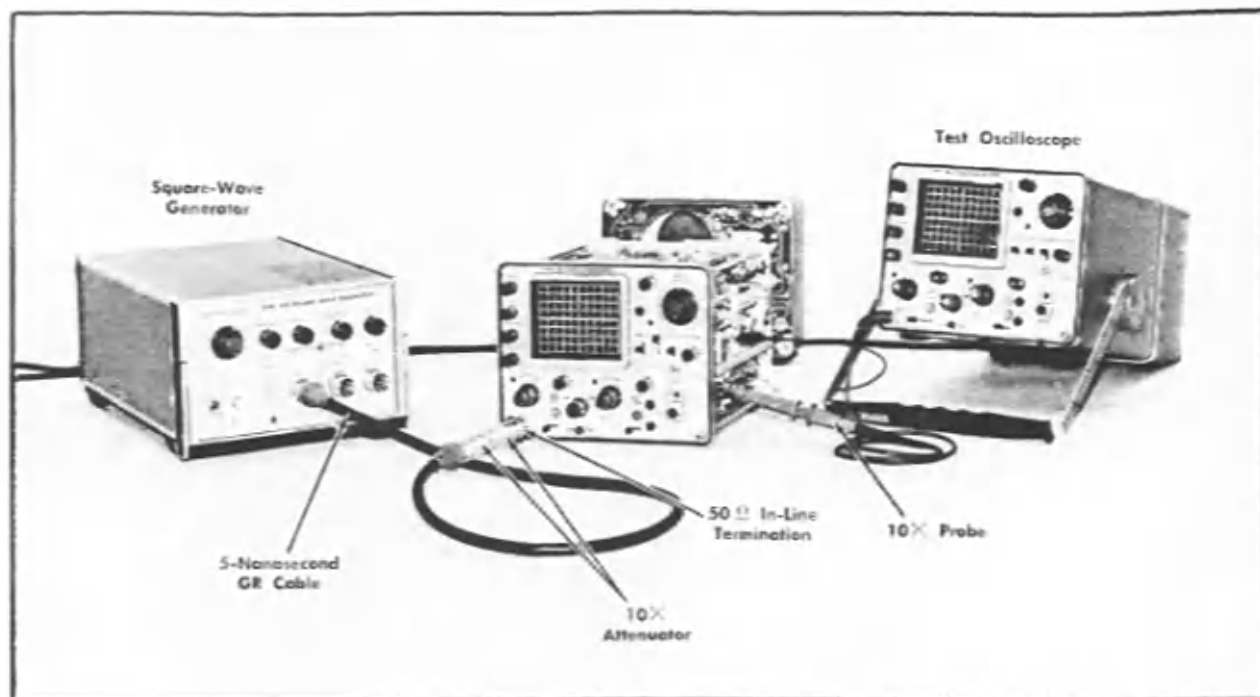

Fig. 6-33. Initial test equipment setup for steps 30-33.
30. Adjust Internal Trigger Compensation ①
- Test equipment setup is shown in Fig. 6-33.